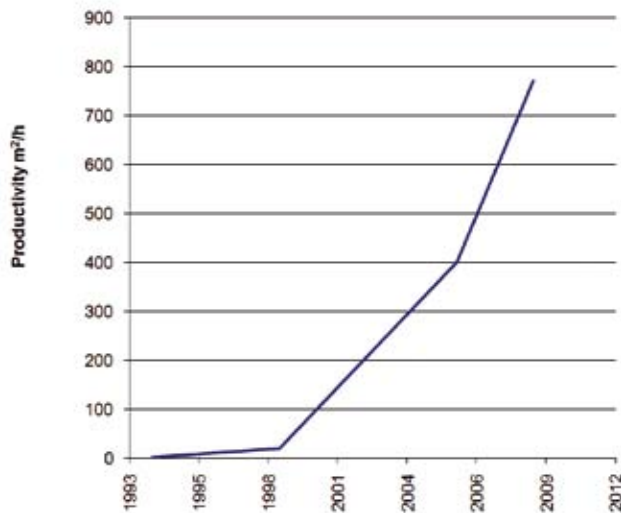

Figure 3. Productivity increase in photo/near offset quality sheet inkjet printing since the early 90s.
- In general, the productivity increase in single-sheet printing more or less follows Moore's law (see Figure 3), doubling the m^2/h every two years from 2 m^2/h in 1994 up to 700 m^2/h in 2009 (roll-to-roll or roll-to-sheet single-pass printers can already have considerably higher productivity).